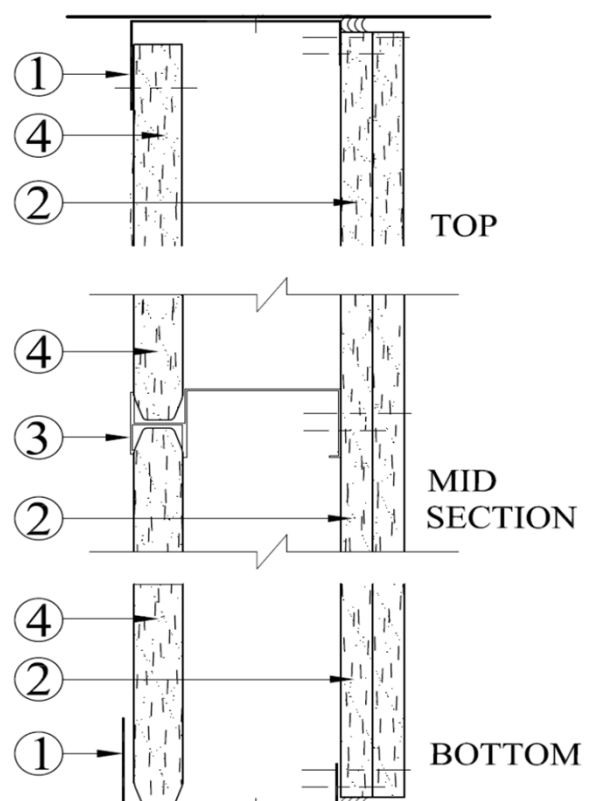

Figure 6 - Two Hour Horizontal Stud Shaft Wall Assembly (Non-Load Bearing)
Sheetrock® Brand Firecode® X Panels- UL Type SCX have been tested to generate the shaft/stair wall limiting heights for the wall assembly described by Figure 6. Panels are available 5/8-in thick, 48-in or 54-in wide and lengths up to 14-ft. Product must be UL/ULC Classified for fire-rated construction (Type SCX) and must meet the requirements of ASTM C1396.
Two-Hour Horizontal Stud Shaft Wall Assembly (Non-Load Bearing), See Figure 6
2. See Figure 6 for horizontal stud installation details within shaft/stair wall. The horizontal wall width is limited to the length of the Gypsum Liner Panel and only 400CH20-34 and 600CH20-34 steel studs are permitted for horizontal stud installations.